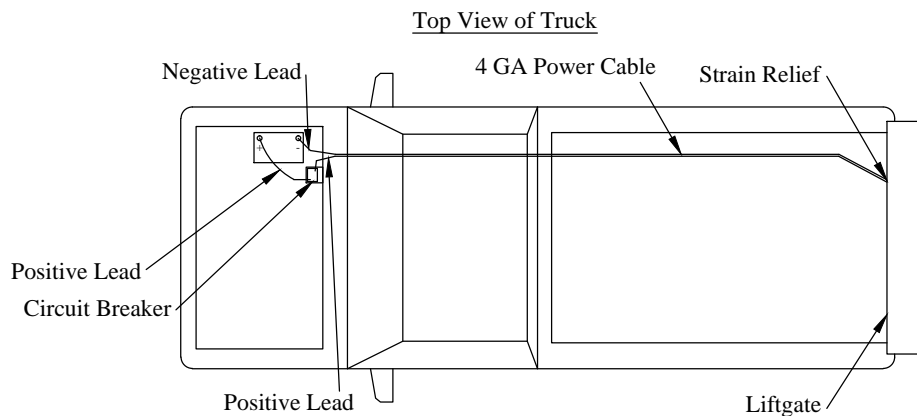

Figure 22: Electrical routing.
2. **Loosen** the strain relief on the back of the liftgate mainframe (Figure 22).
3. **Pull** the power cable (coiled up in the liftgate mainframe) carefully through the strain relief. Leave approximately two (2) inches of slack inside the liftgate mainframe (Figure 22).
5. **Route** the power cables along the frame (Figure 22) to the battery following the *Tommy Gate Recommended Electrical Wiring Guidelines*.